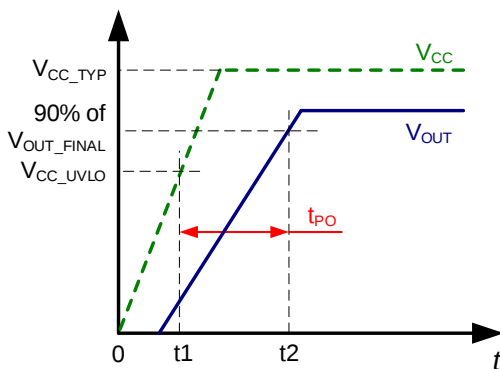

Figure 4: Power-On Time (t_{PO})
2. t_2 : V_{OUT} settles to 90% of its final value under an applied I_P (see Figure 4).